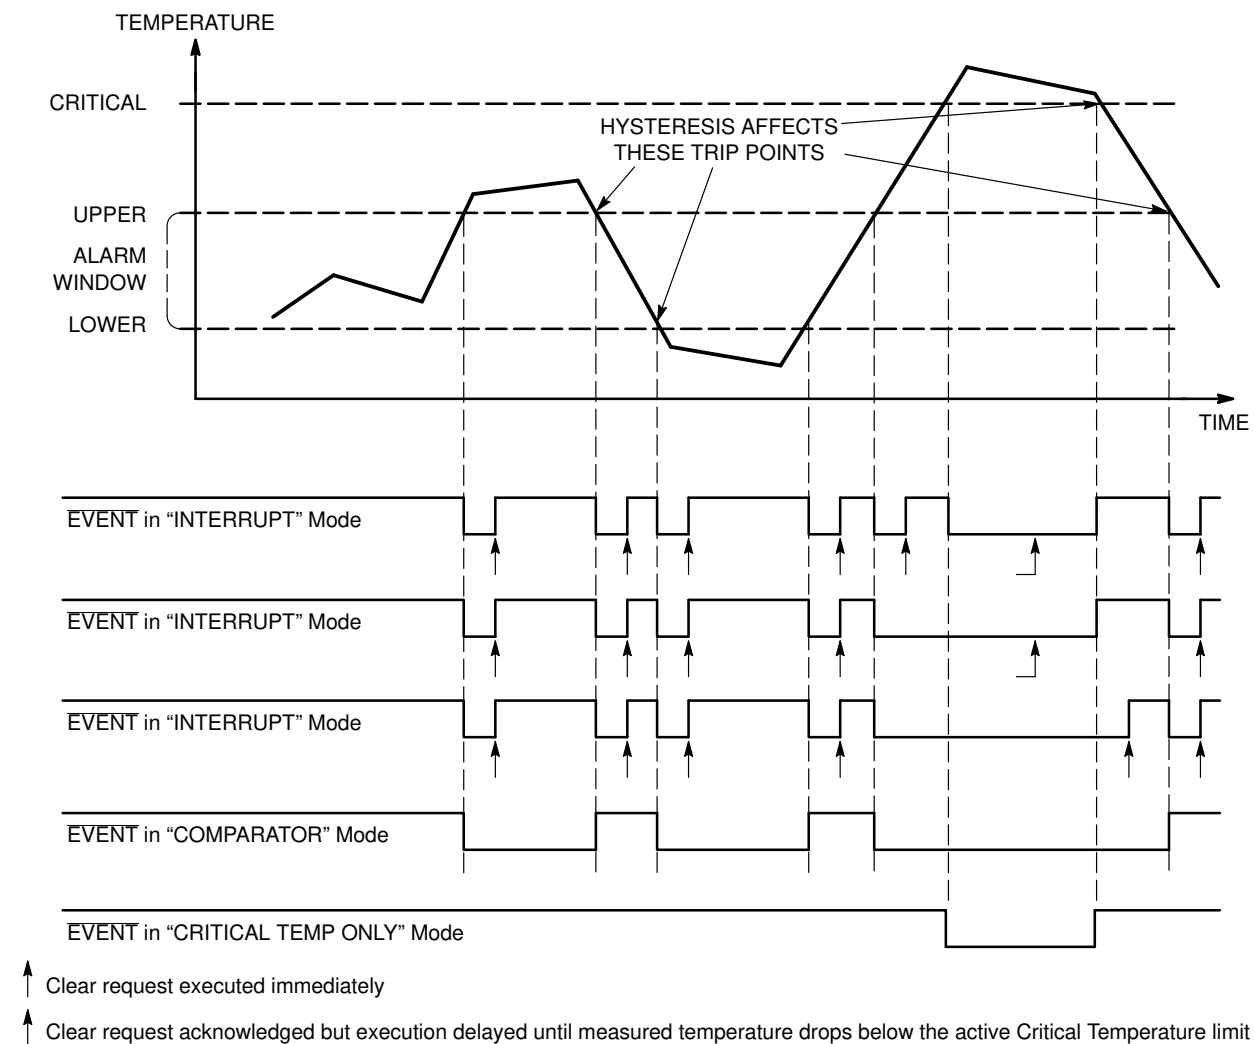

Figure 15. Event Detail
20. Writing a '1' to this bit clears an event condition in Interrupt mode, but has no effect in comparator mode. When read, this bit always returns 0. Once the measured temperature exceeds the critical limit, setting this bit has no effect (see Figure 15).
The  $\overline{\text{EVENT}}$  output reacts to temperature changes as illustrated in Figure 15, and according to the operating mode defined by the Configuration register.